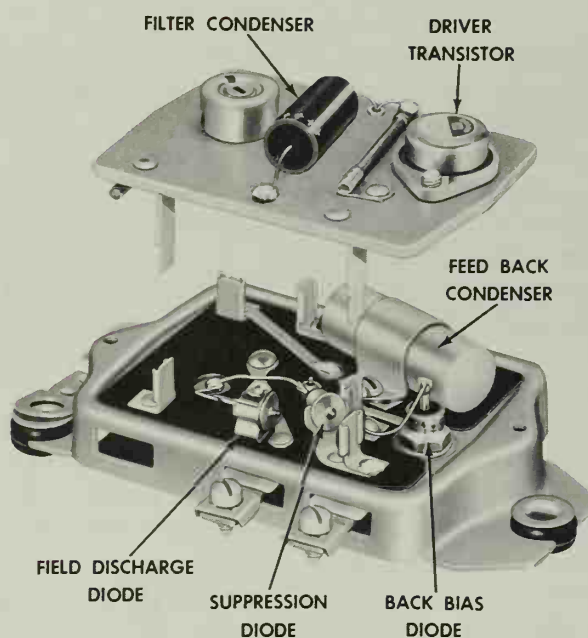
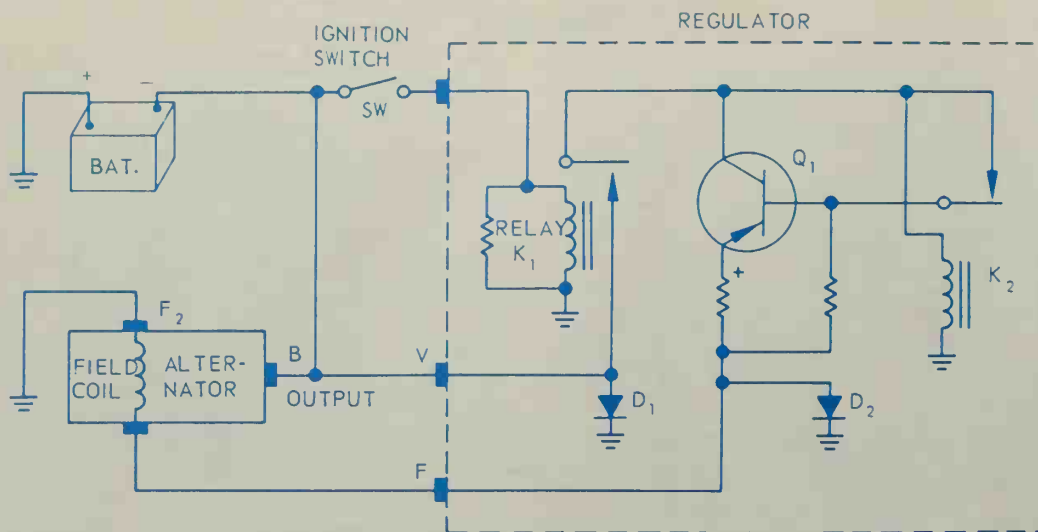

Fig. 6-18. A transistorized alternator regulator. (Delco — Remy)
Fig. 6-19. A transistorized regulator circuit for an automotive alternator.
A change in load current from an alternator also causes a change in the voltage drop across the stator windings and a change in output voltage. Generally, external regulation circuits are used to hold the voltage output at a constant level. A transistorized regulator for the automotive alternator is shown in Fig. 6-18. A transistorized regulator circuit is shown in Fig. 6-19.
When ignition switch (SW) in Fig. 6-19 is closed, relay K_1 is closed and the alternator rectified voltage output is applied to the collector and to the base of transistor Q_1 . The